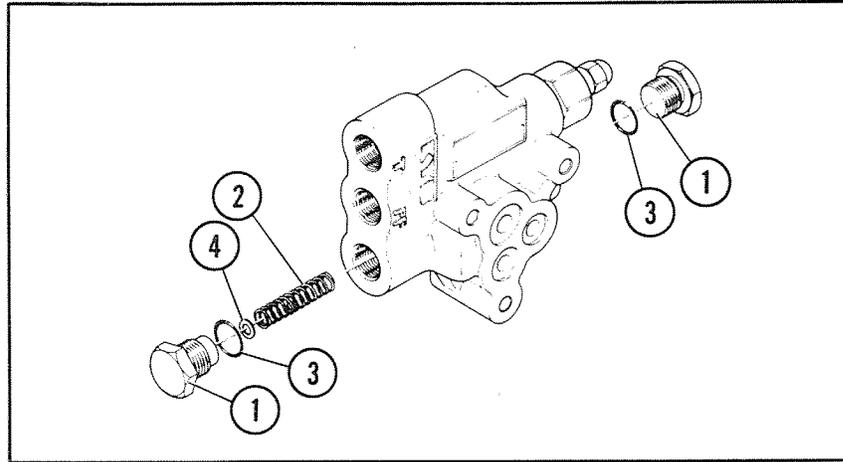

Figure 19
1. Remove two plugs (1) Figure 19, from the body.
2. Remove the spring (2), Figure 19.